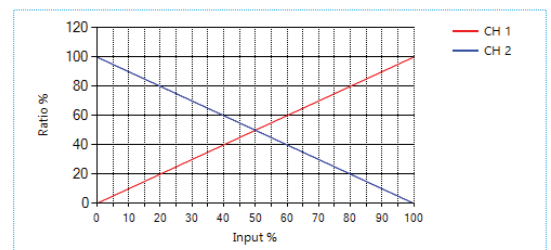

Figure 11: CCT mapping graph
Click **Lock CCT Mapping Table** to prevent changes from being made to the mapping table, this will also update the graph (shown in Figure 11).
*Tip: Scroll to the bottom of the window to see the graph (Figure 11) of the current mapping configuration.*